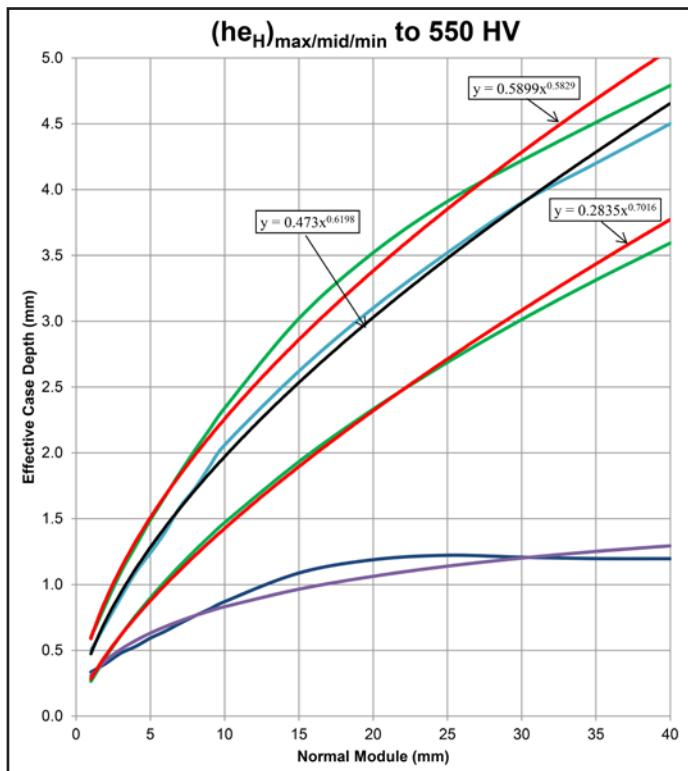

Figure B-2 Derivation of Figure 3.
Method Used to Derive Figure 3. The following text and Figure B-2 explain the methodology used to derive Figure 3 of this report.
- The lower green line in Figure B-2 conforms to the MAAG (Ref. 5) equation: $(h_{eH})_{min} = (m_n / 2 + 1.1)^{1/2} - 1$